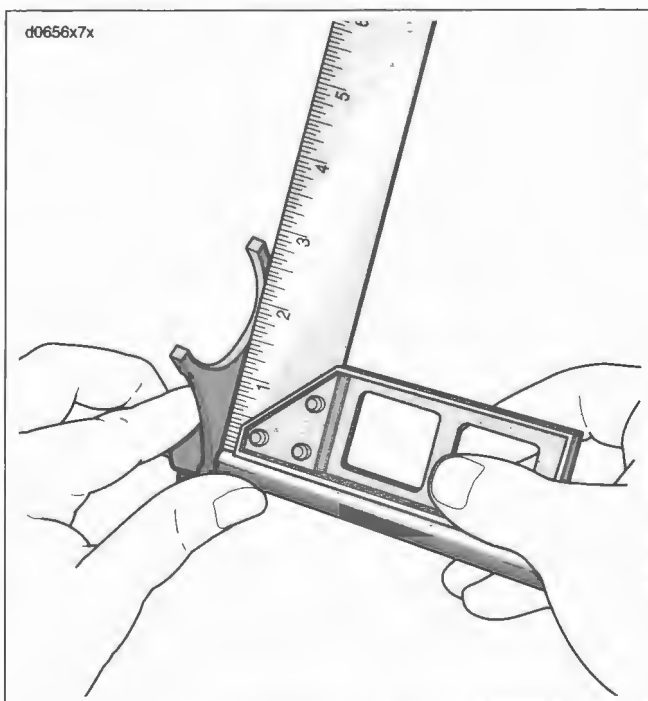

Figure 7-4. Checking Fork
3. See Figure 7-4. Check to see if fork is square on the shaft using a small carpenter's square. If fork does not rest directly on the square, it is bent and must be replaced.